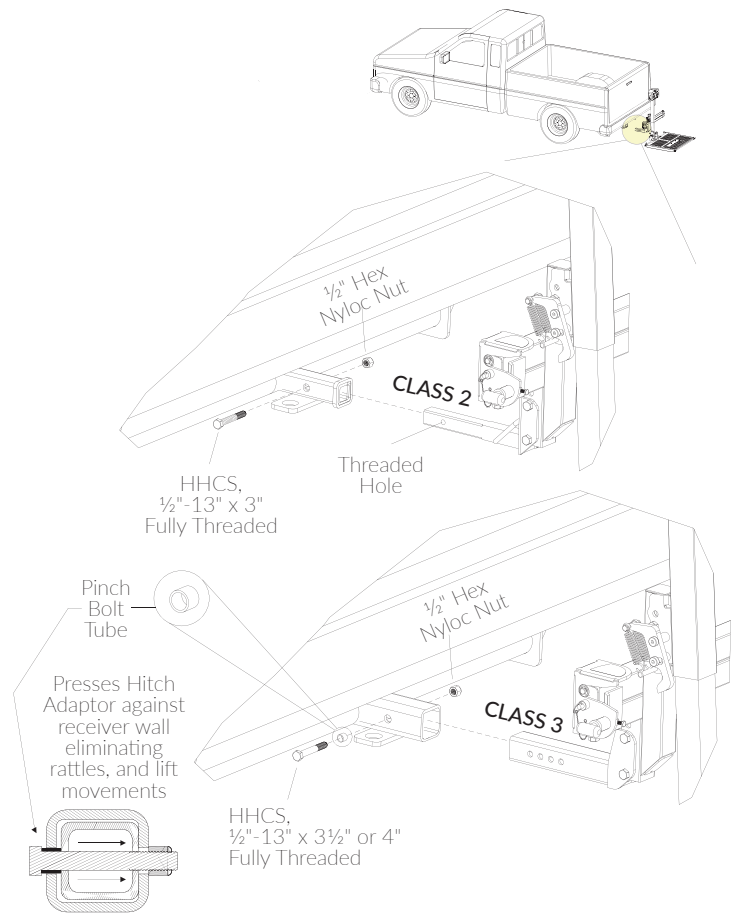

Figure 4-10
3. Insert the hitch adaptor into the receiver on the vehicle's hitch. Secure the adaptor according to the hitch class. **See Figure 4-10.**